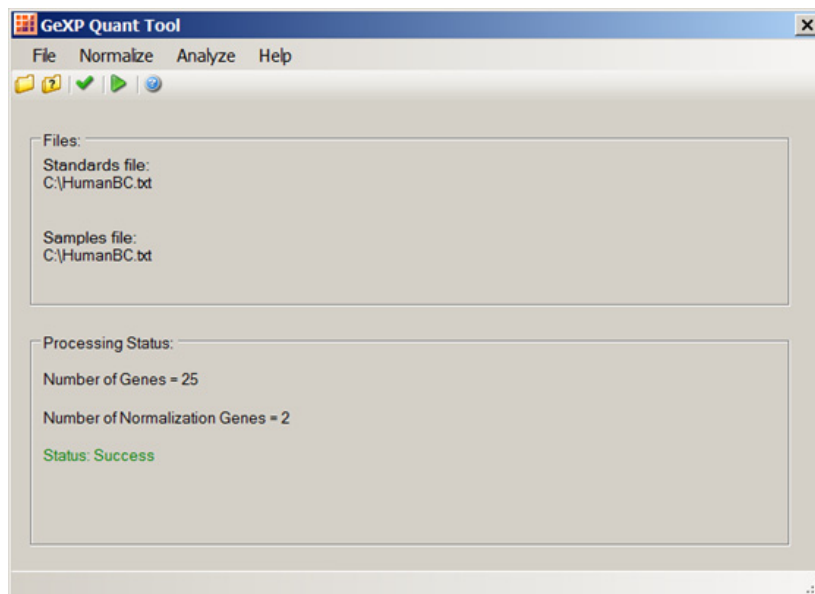

Figure 7.44 Analysis completed successfully
9. When the analysis is completed, the status of the analysis will be changed from “Processing” to “Success.” Refer to Figure 7.44.